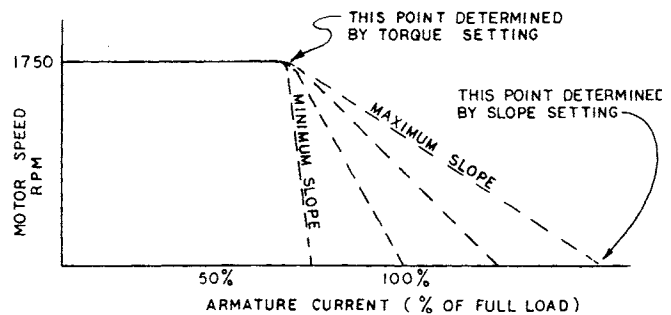

Figure 1.1
Torque slope control	Refer to Figure 1.1
- F. **SLOPE:** Used in conjunction with torque-decreasing speed characteristic above a fixed torque limit. (See Fig. 1.1) Increasing this control clockwise increases the slope setting to maximum (vertical line). Adjusting the torque setting moves the entire curve. Adjusting the slope setting changes the stall point only.